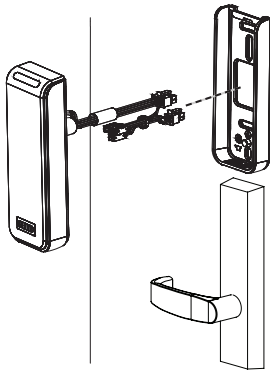

Fig. 7A
1. Feed reader harness through door (Fig. 7A).